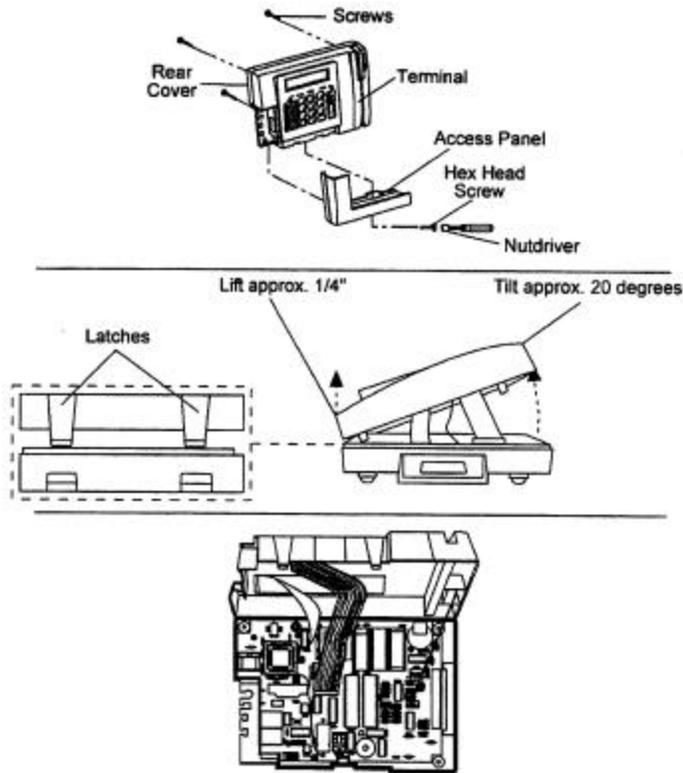

Figure 32: Rear Cover Removal
1. **Remove the access panel and rear cover from the terminal. Refer to Figure 32.**